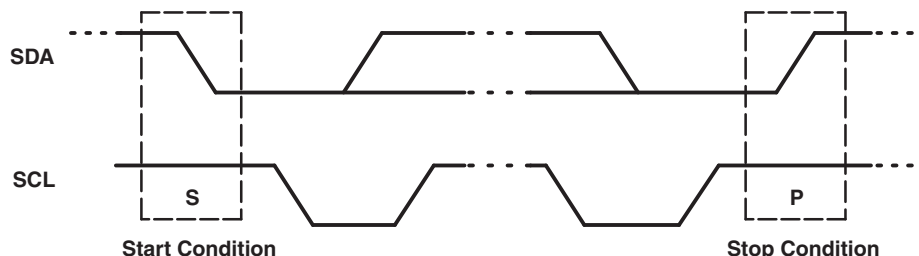

Figure 13. Start and Stop Conditions
Both data and clock lines remain high when the bus is not busy. A high-to-low transition of the data line while the clock is high is defined as the Start condition (S). A low-to-high transition of the data line while the clock is high is defined as the Stop condition (P) (see Figure 13).